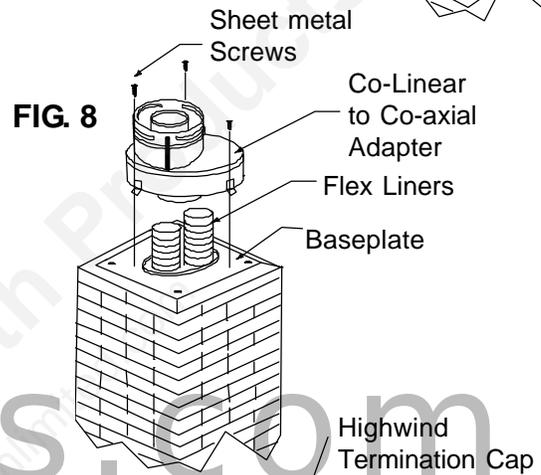

FIG. 8
Step 7. Attach the flex liner at the top of the chimney to the co-linear to co-axial adaptor. Use four sheet metal screws to connect each flex liner run to the adaptor. Mount the adaptor to the baseplate using sheet metal screws, as shown (see Figure 8).